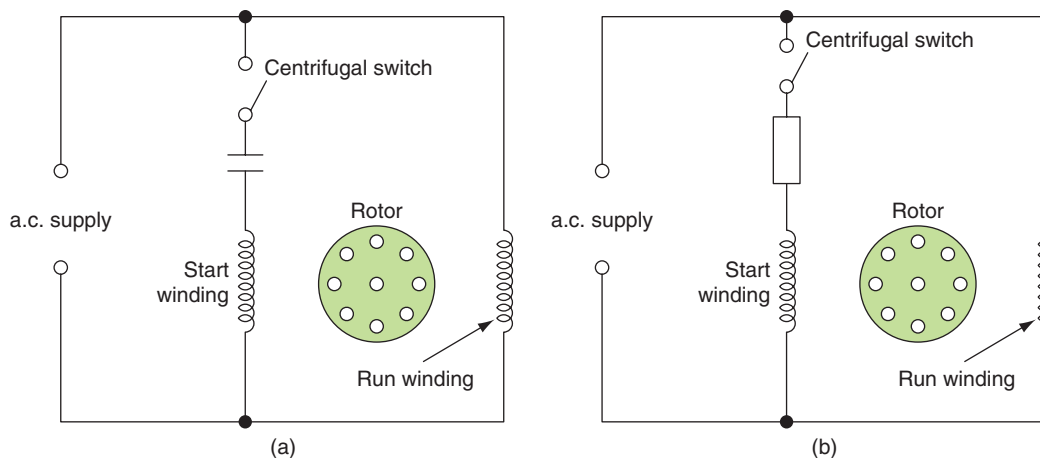

Figure 2.52 Circuit diagram of: (a) capacitor split-phase motors, and (b) resistance split-phase motors.
- by connecting a capacitor in series with the start winding, as shown in Fig. 2.52\(a\), which gives a 90° phase difference between the currents in the start and run windings;
- by designing the start winding to have a high resistance and the run winding a high inductance, once again creating a 90° phase shift between the currents in each winding, as shown in Fig. 2.52\(b\).